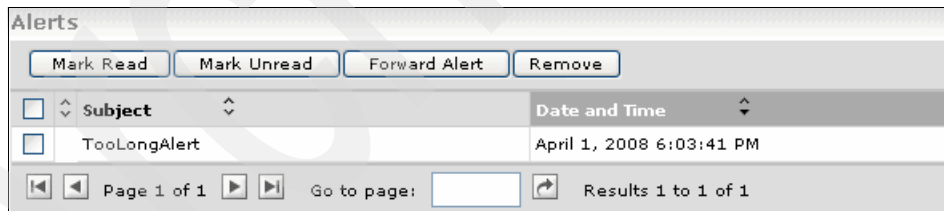

Figure 8-165 Alerts view
16. Add the Alerts view (Figure 8-165) to the dashboard.